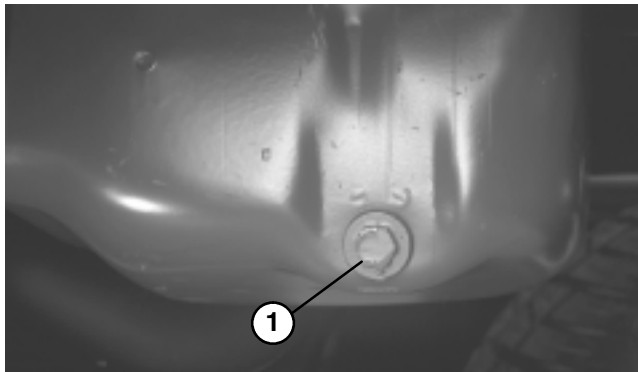

Figure 19
ENGINE OIL AND FILTER (Fig. 19–20)
1. Remove drain plug (Fig. 19) and let oil flow into drain pan. When oil stops, install drain plug.